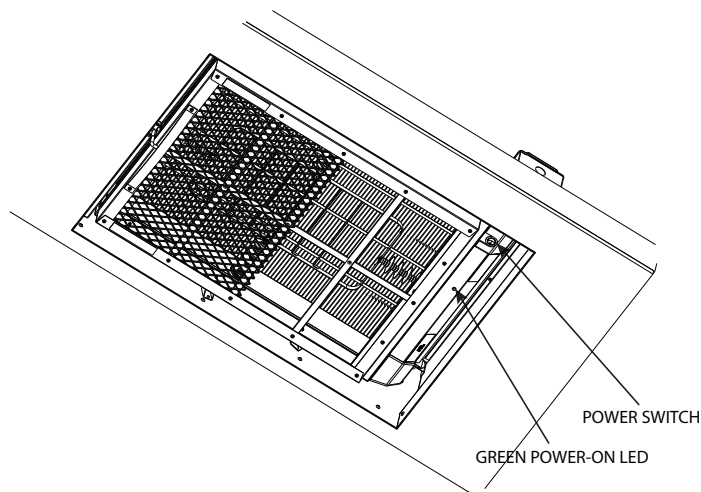

Fig. 17 – Power Switch and Indicator
- b. Turn on the unit; verify the green LED is active (Fig. 17).
20. Turn on the unit and test for proper operation; verify the green LED is active (Fig. 17).
3. The green indicator light on the power supply door should illuminate (Fig. 17).